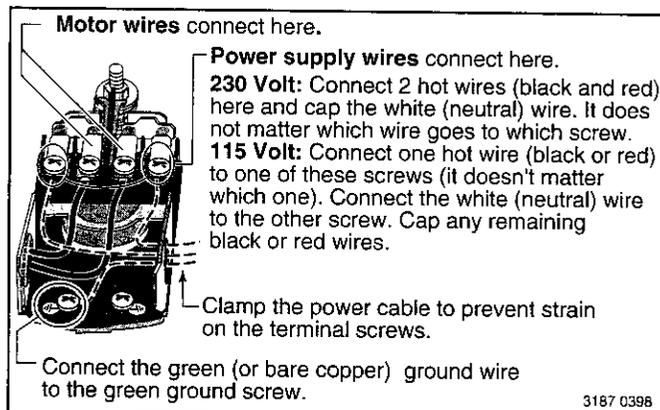

Figure 17 – Pressure Switch Wiring
4. Connect the power supply wires to the pressure switch as shown in Figure 17.